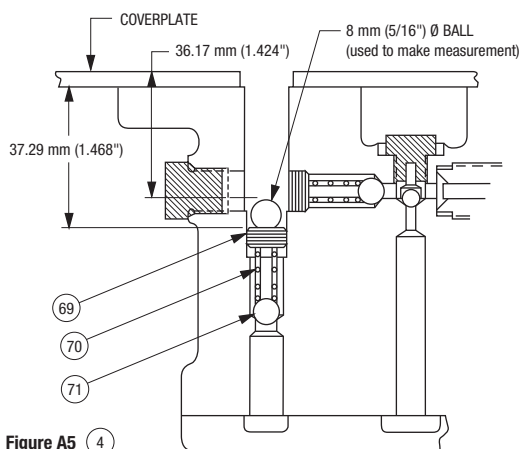

Figure A5 (4)
Low-pressure bypass check valve is set incorrectly.	See Hydraulic Schematic (4). If set too low: The pump cannot shift to the high-pressure stage. See Pressure Adjustment for the Low-Pressure Bypass Check, Figure A5 in the Repairs section of this manual. If set too high: The pump cannot restart under pressure. See Pressure Adjustment for the Low-Pressure Bypass Check, Figure A5 in the Repairs section of this manual.
Low-pressure bypass check valve is faulty.	See Hydraulic Schematic (4). If set too low: The pump cannot shift to the high-pressure stage. See Pressure Adjustment for the Low-Pressure Bypass Check, Figure A5 in the Repairs section of this manual. If set to high: The pump cannot restart under pressure. See Pressure Adjustment for the Low-Pressure Bypass Check, Figure A5 in the Repairs section of this manual.
When properly set to the dimension shown in Figure A5, the high pressure stage operation of the pump will be delayed approximately one (1) second after the motor starts. This delay is created by the closing time of the pilot-operated valve.